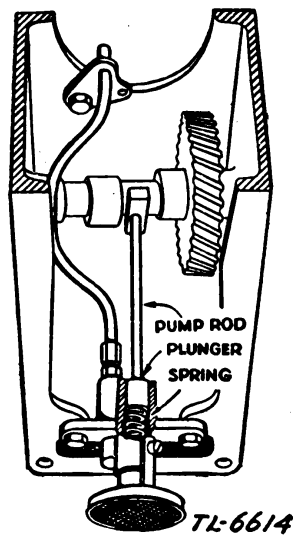

FIGURE 18. Oil pump.
**f. Oil pump** (fig. 18). The oil pump is attached to the crankcase with two bolts and lock washers, and is operated from an eccentric on the cam gear. A defective pump will lead to insufficient lubrication, which may result in scoring the cylinder and the piston assembly. To check the oil pump, remove the base and the two bolts that hold the pump in place. Place the pump in a pan containing oil about  $\frac{1}{2}$ -inch deep. Work the plunger up and down. If the pump is in good operating condition, a stream of oil will be forced out of the hole in the pump plunger. If the pump is clogged, remove the plunger and plunger spring, and submerge the parts in gasoline or kerosene for 3 or 4 hours to loosen any accumulated sludge or gum. If the pump is still inoperative, replace it. In assembling, be sure that the spring and plunger are in place, as shown in figure 18.